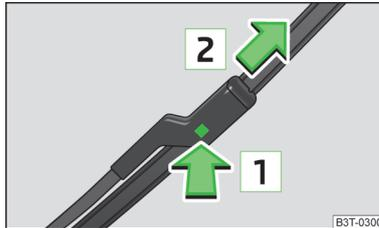

Fig. 197
- Hold the upper part of the wiper arm and unlock the securing mechanism **1** » Fig. 197.